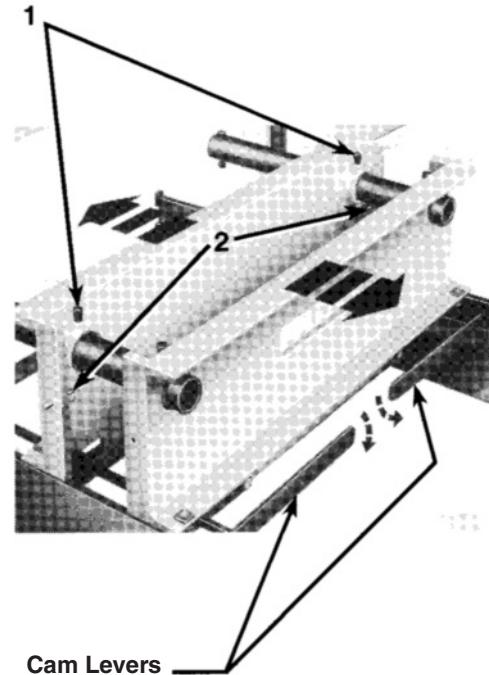

FIGURE 11
1. See Figure 11. To adjust the space between the bed channels, loosen the set screws (Item 1). Extend the cotterless hitch pins (Item 2) into the space between the upright angles. This holds the rear bed channel and allows the front bed channel to be pushed or pulled to the desired spacing. Tighten the set screws before rolling the bed.
2. Place the cam levers in the DOWN position as shown in Figure 11 (not past horizontal) to raise the roll bed. Roll the bed out to the work-loading position. Place the work piece on the roll bed, and center it as much as possible. Raise the upper bolster if necessary to allow clearance for the work piece.